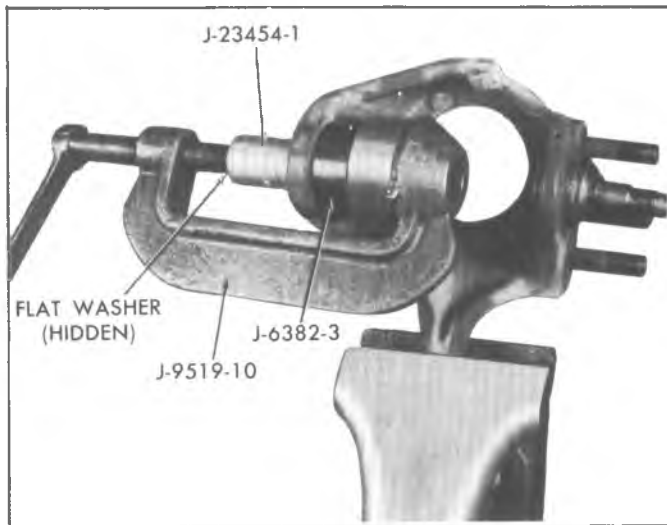

Fig. 63—Removing Lower Ball Joint
14. Remove the lower ball joint using tools J-9519-10, J-23454-1, and sleeve J-6382-3 or equivalent as shown in Figure 63.